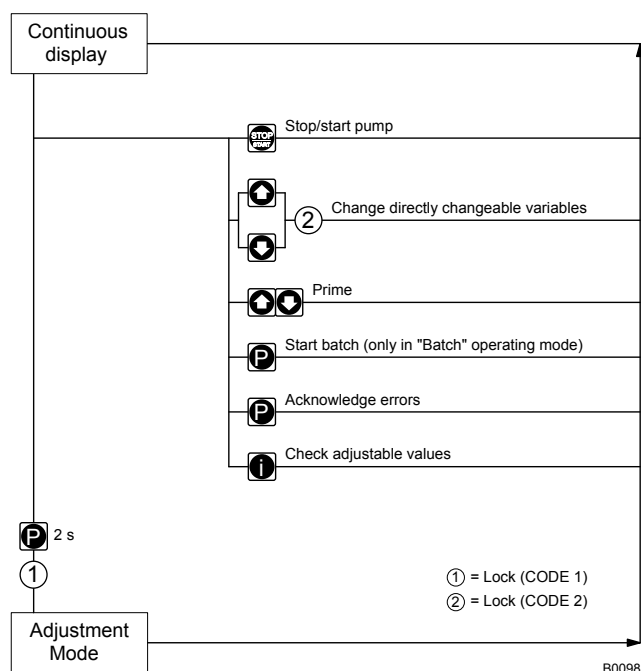

Fig. 39
- Select 'CODE 1', to block Setting mode (① in Fig. 39). In the next menu option, enter the number you want to use as the code.
- Select 'CODE 2', to block the option to adjust the directly changeable variables in the continuous displays (② in Fig. 39). In the next menu option, enter the number you want to use as the code.